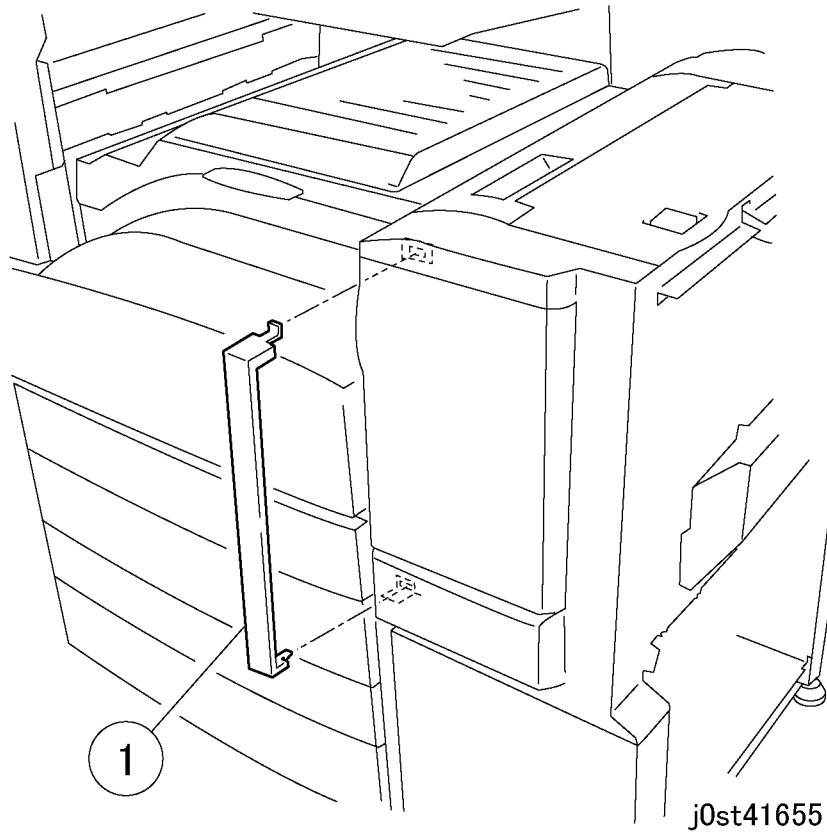

Figure 2 Removing the cover (j0st41655)
3. Remove the cover. (Figure 2)